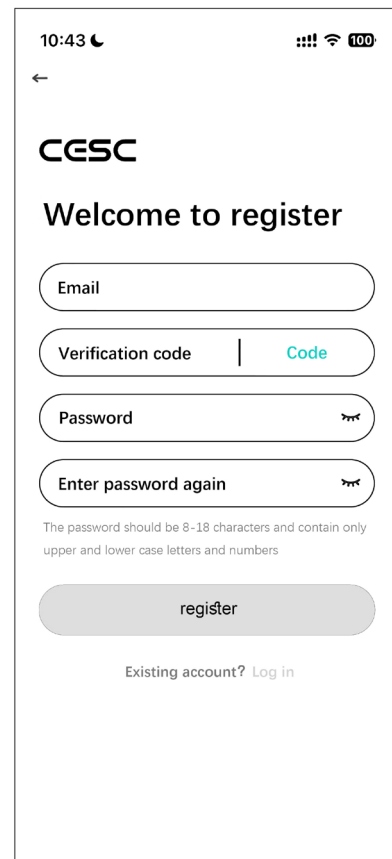

Figure 2
5.2.2 Account Registration (see Figure 2)